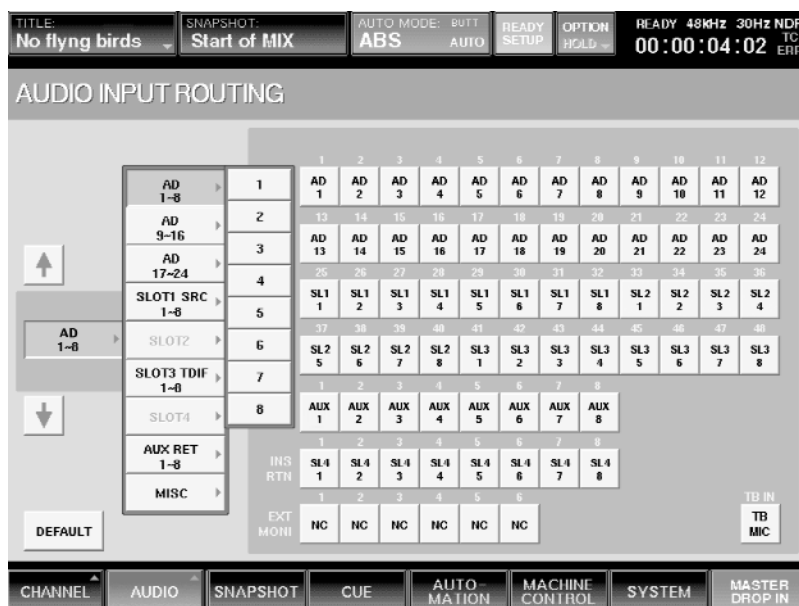

Figure 15
- 3 If you press a SOURCE selection a second time, a second drop-down menu will appear. This menu lists all of the independent sources within that group of 8. For example, press the AD 1-8 button and you will see a listing of the first 8 AD inputs (the head amp connectors). (See Figure 15)